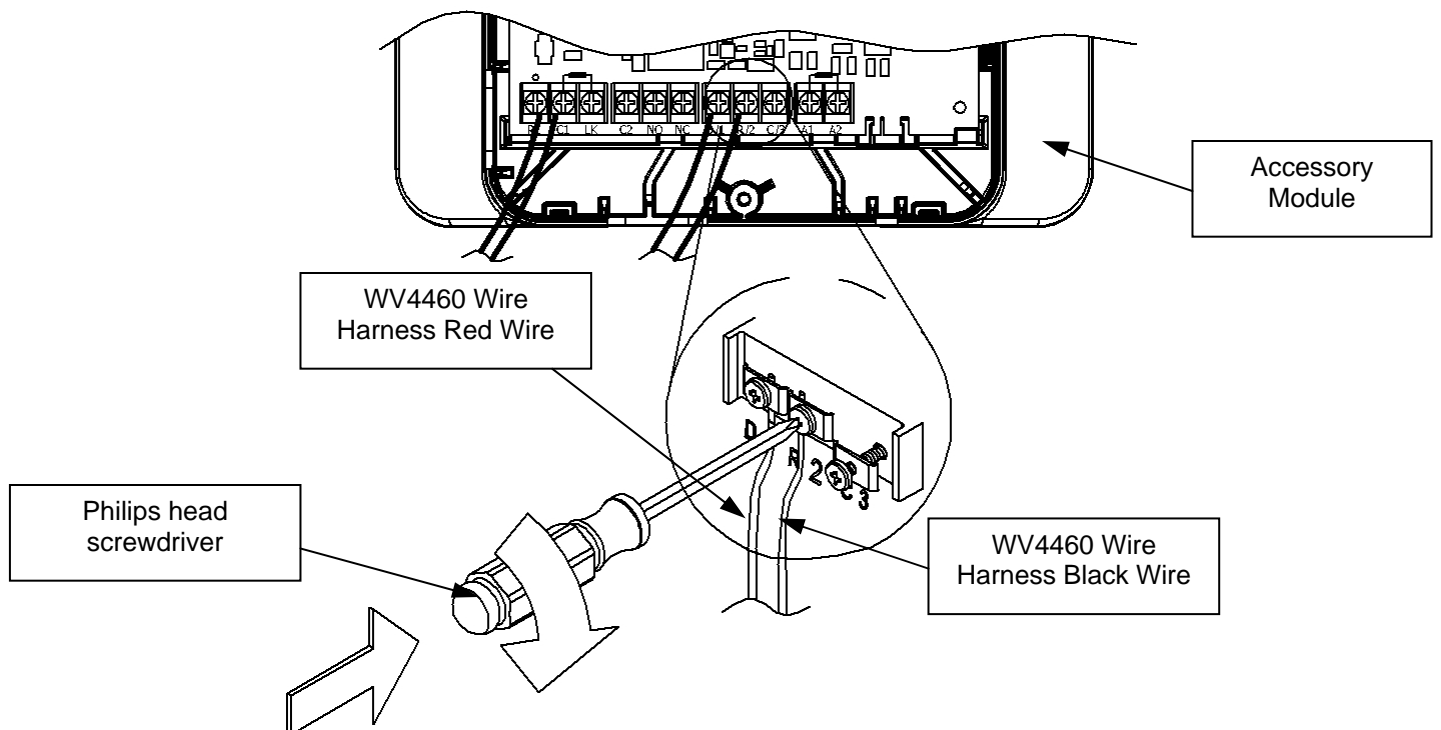

Figure 22
Step 22: Tighten the screw labeled "R/2," as shown in Figure 22.